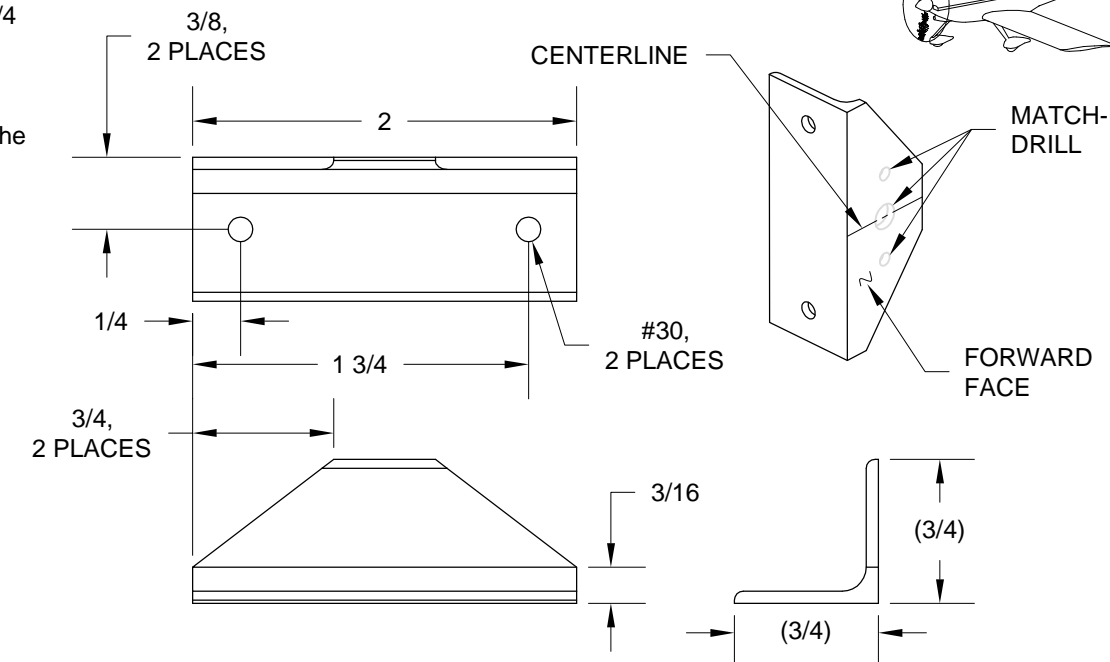
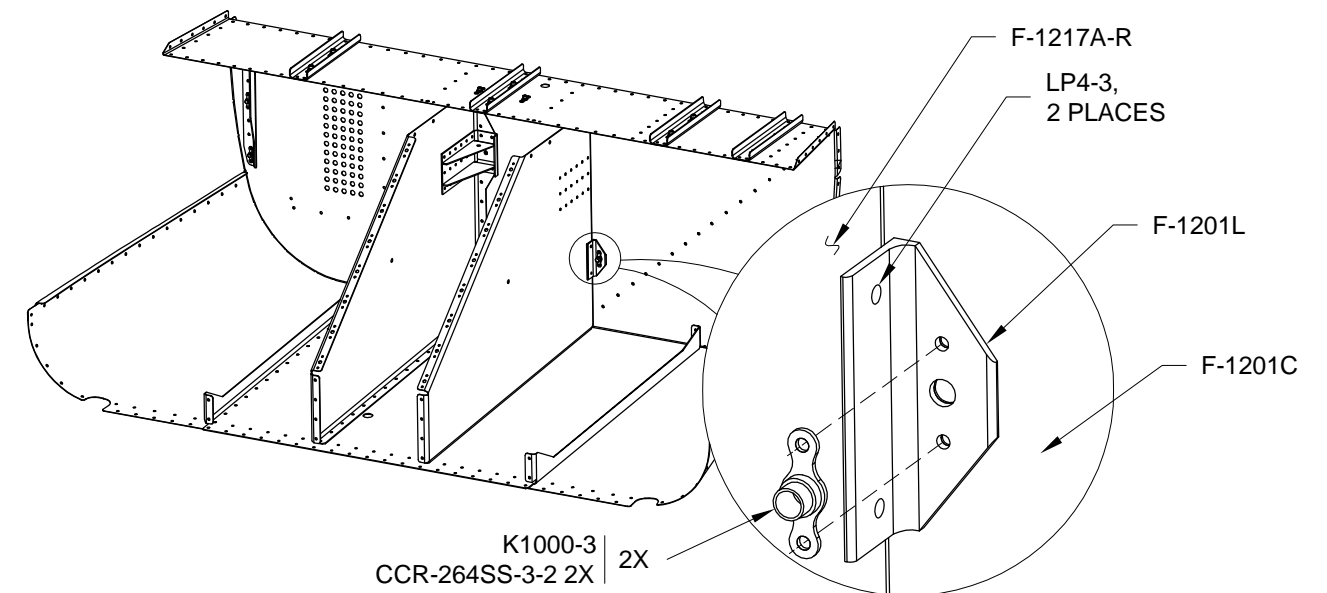

FIGURE 3: MAKING F-1201L
FIGURE 4: INSTALLING F-1201L
Step 7: Make the F-1201L Bracket from AA6-063X3/4X3/4 per the dimensions given in Figure 3.
Step 8: Draw a centerline on the forward face of the F-1201L Bracket. See Figure 3.
Step 9: Place the F-1201L Bracket flush against the F-1217A-R Tunnel Rib and F-1201C Firewall Bottom dimples as shown in Figure 4. Align the centerline on the forward face of the bracket with the gascolator attach hole (Page 22-2, Figure 3) then match-drill #40 the nutplate attach holes in the firewall bottom into the bracket (use a small wood block to protect your fingers). Remove the bracket and machine countersink the nutplate attach holes in the forward face of the bracket for the dimples in the firewall bottom.
Step 10: Cleco the F-1201L Bracket to the F-1201C Firewall Bottom. Match-Drill #30 and cleco the two holes in the inboard flange of the bracket into the F-1217A-R Tunnel Rib (a #30 12 inch extension bit is useful for these holes). Match-Drill #12 the gascolator attach hole in the firewall bottom into the bracket. See Figure 4.
Step 12: Rivet the F-1201L Bracket to the F-1217A-R Tunnel Rib and with a nutplate to the F-1201C Firewall Bottom as shown in Figure 4. Dimple then rivet a second nutplate to the remaining gascolator attach hole on the firewall bottom inside the tunnel.